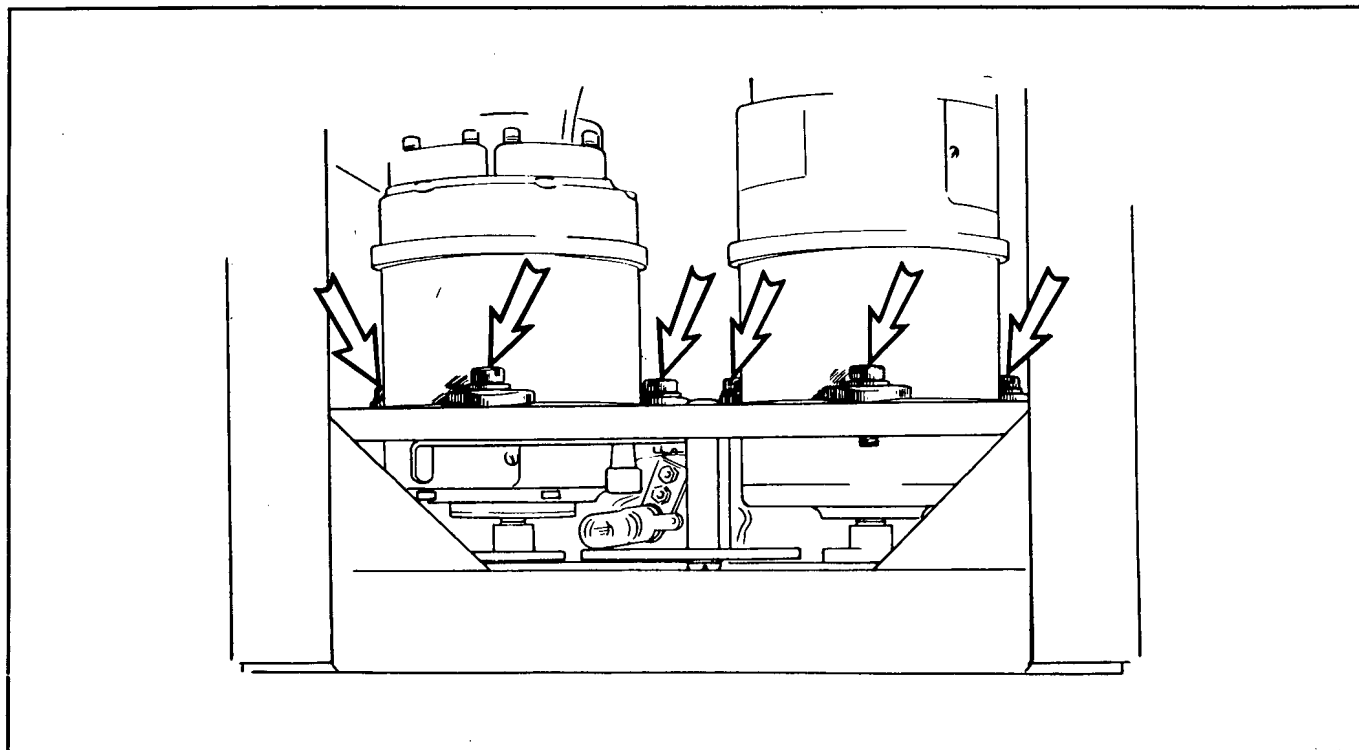

Figure 7-117. Synchro Adjustment in Bearing Indicator
(1) Provisions are made for correcting errors in the reading of the indicator dials. This is done by loosening the three screws which hold the synchro units in position on the vertical plate behind the front panel. See Fig. 7-117. Then the body of the synchro units should be turned until the dial readings indicate the known bearing of the radar antenna. Tighten the screws while holding the synchro unit in its correct position. *Do not attempt to move the dials. All adjustments should be made by turning the synchros.*